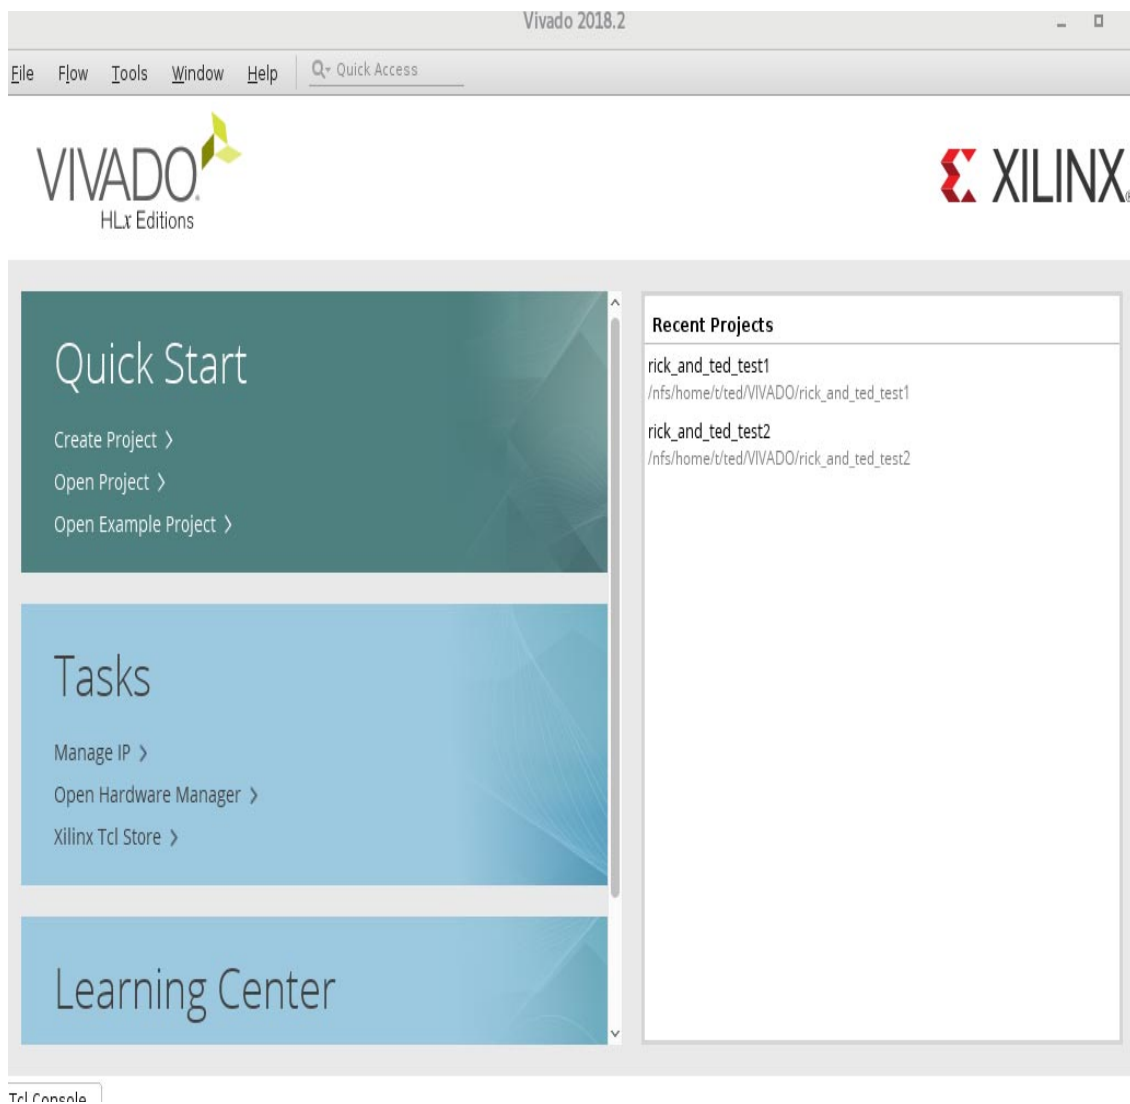

Figure 2: Main Vivado window.
6. The main Vivado will appear as shown in Figure 2.